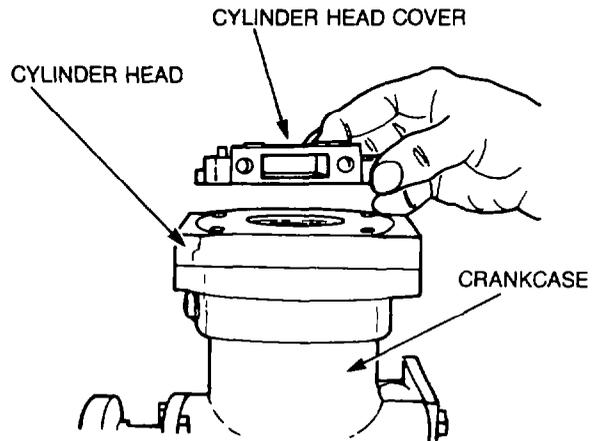

Figure 233 — Cylinder Head Cover and Cylinder Head — Removal
- i. Remove the four bolts and washers securing the cylinder head cover and the cylinder head to the crankcase, then remove the cover and the cylinder head (see Fig. 233). Discard the cylinder head cover gasket and the cylinder head gasket.